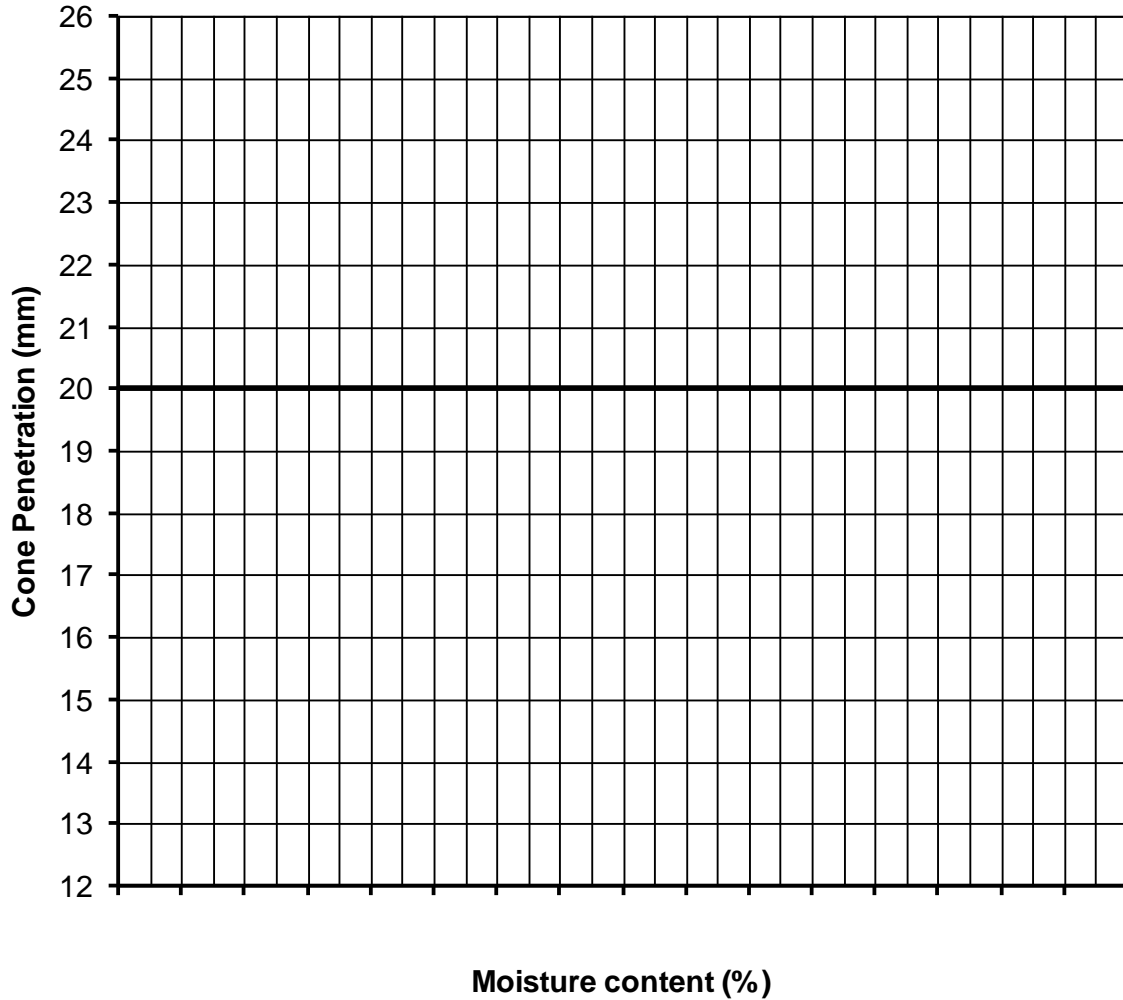

Figure Q3-1
- (i) Using Fig Q3-1, as appropriate, determine the 'Index Properties' for this soil. Ensure that you fully define what the "Index Properties" are for fine-grained soils. (10 marks)